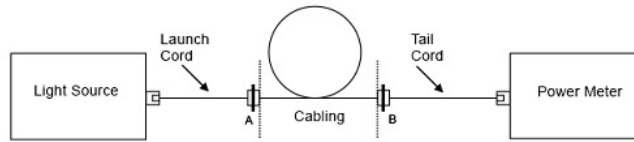

Figure 8. Measure attenuation
- b. Make the measurement and compare to the reference measurement (see Figure 8).